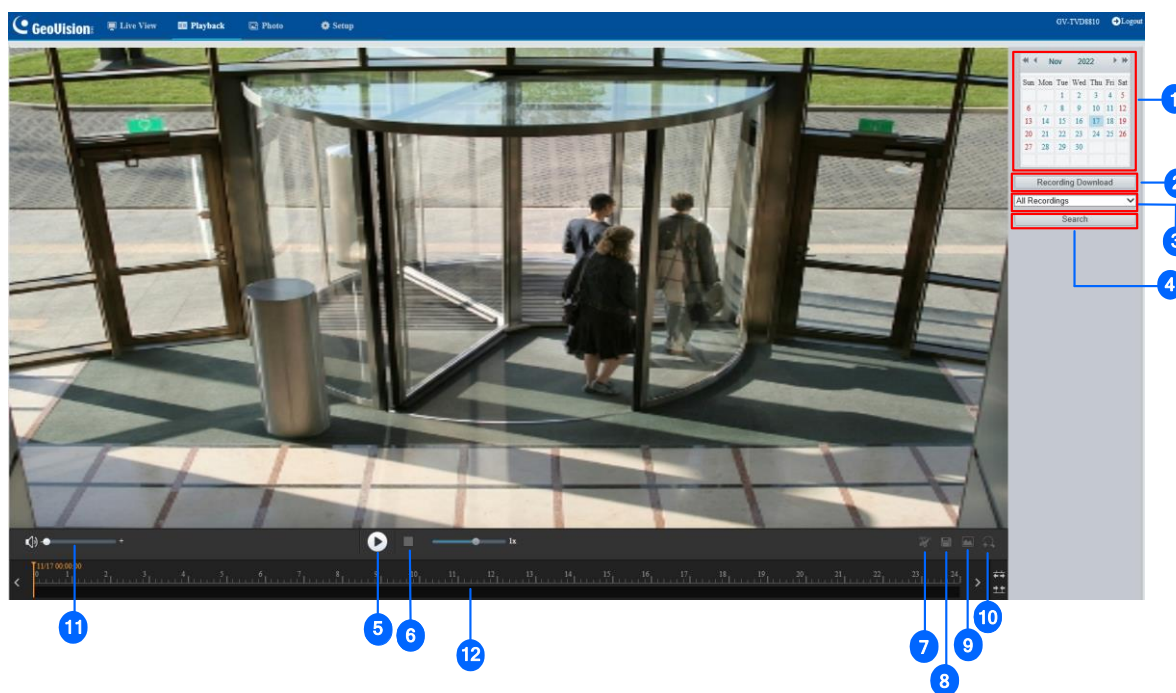

Figure 2-14
- Click **Recording Download** (No. 2, Figure 2-14) on the right of the Playback window.